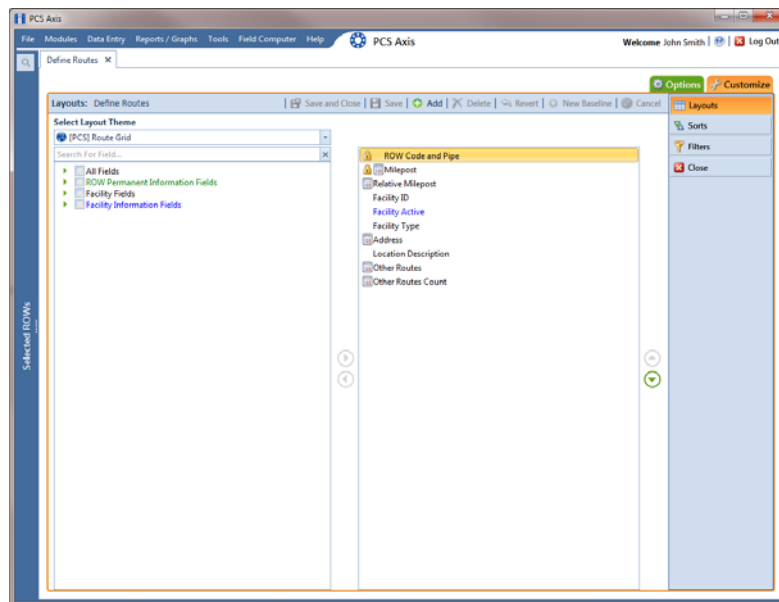

Figure 8-41. Layouts
- 3 Click the **Customize** tab  to view the *Layouts* page (Figure 8-41, page 392).
- 3 Click the **Customize** tab  to view the *Layouts* page (Figure 8-41).
- 3** Click the **Customize** tab  to view the *Layouts* page (Figure 8-41, page 392).